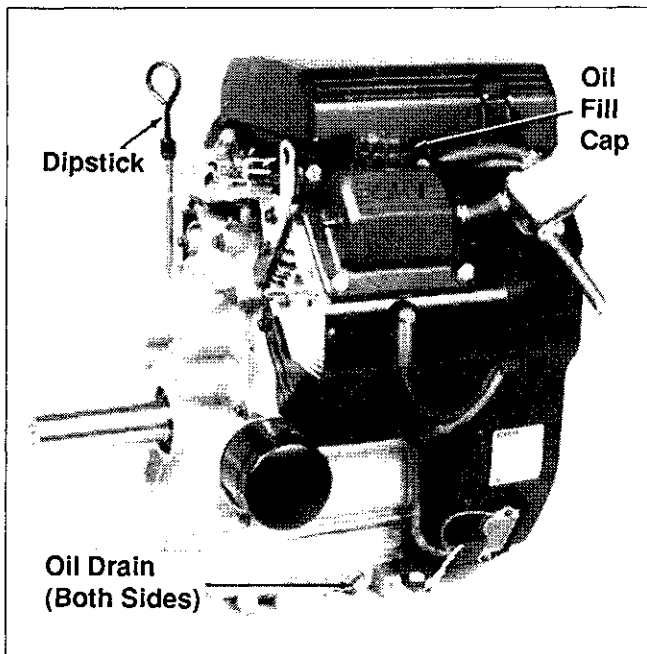

Figure 6-2. Location of Oil Fill Cap/Dipstick.
3. Remove the dipstick; wipe oil off. Reinsert the dipstick into the tube until fully seated. See Figure 6-2.